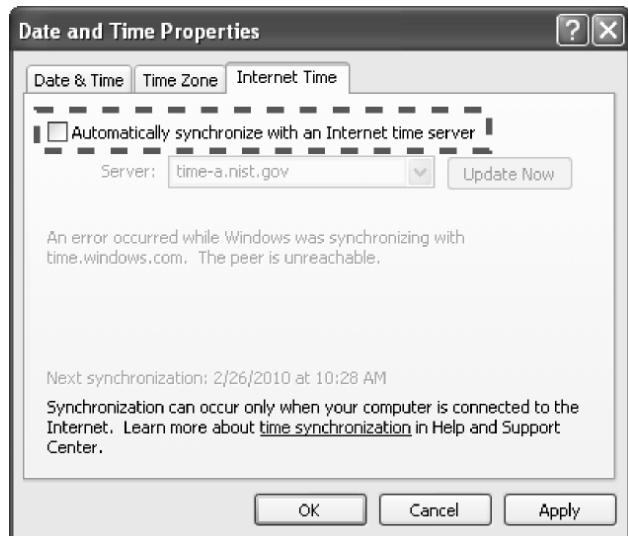

Figure 2-10. Internet Time tab
6. In the Internet Time tab, disable **Automatically synchronize with an Internet time server** by deselecting the adjacent checkbox (Figure 2-10).